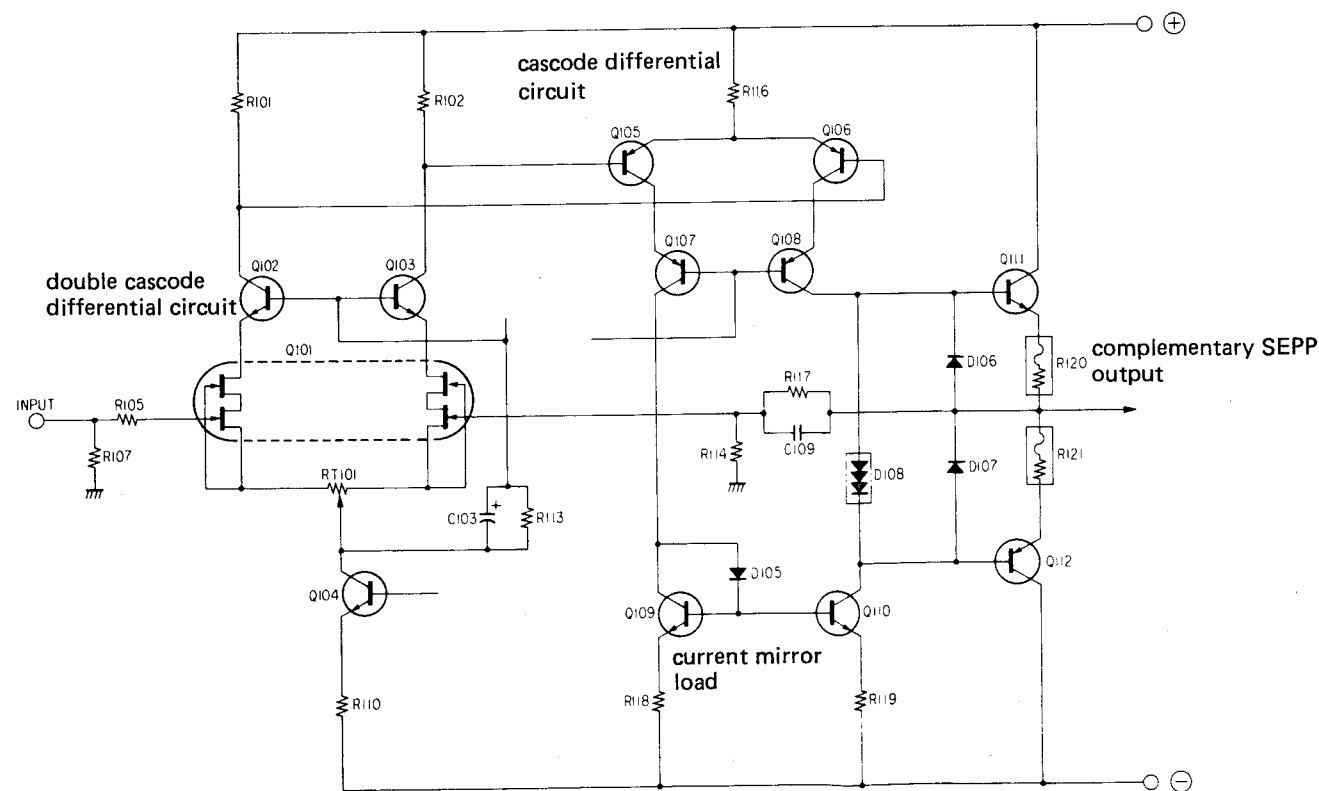

Figure 2
I. Preamplifier (Refer to Figure 2)
1. Preamplifier (Refer to Figure 2)